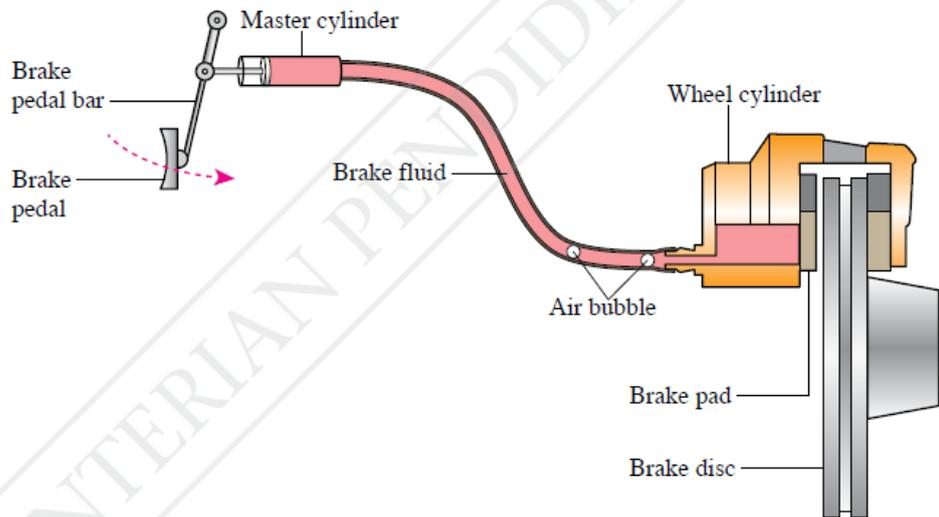

Figure 6
12. Figure 6 shows part of the hydraulic brake system of a car. A driver finds that the brake has to be pressed harder and further in to stop the car.